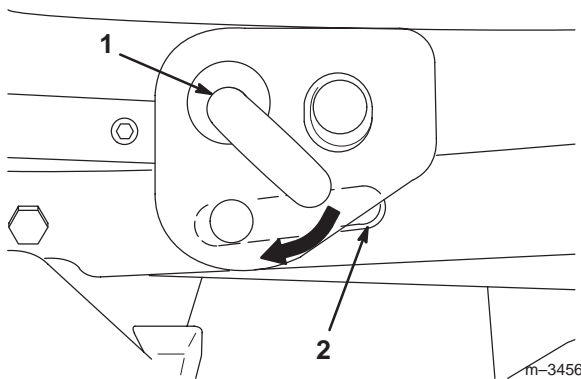

Figure 7
6. Lower the attachment lift arm fully and adjust the mower position until you can pull out on the J-pin of the lift arm and slide it into the slot in the mounting bracket of the mower (Fig. 7).